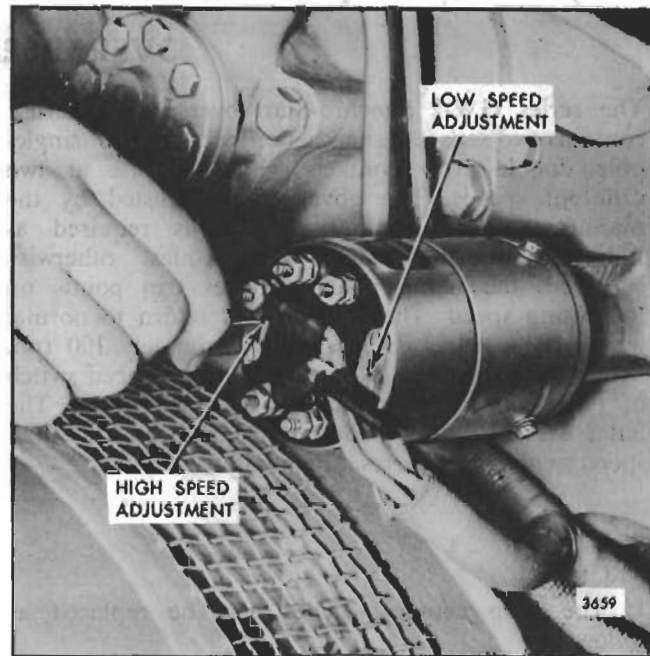

Fig. 2 - Adjusting Trip Speed of Overspeed Governor
2. Turn the screw clockwise to increase the trip speed, or counterclockwise to decrease the speed (Fig. 2).